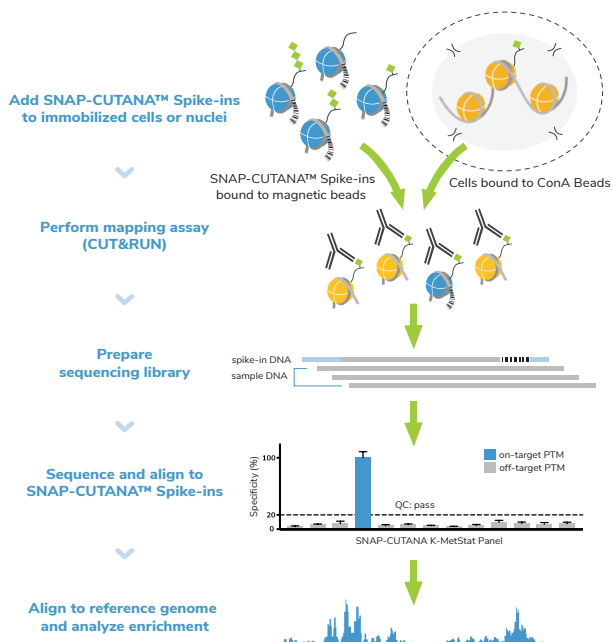

FIGURE 14
- Add the K-MetStat Panel to designated control reactions immediately prior to the addition of H3K4me3 or IgG Control Antibody (Figure 14).
- Add antibody, which binds its target in cells **and** in the spike-in panel (Figure 14).